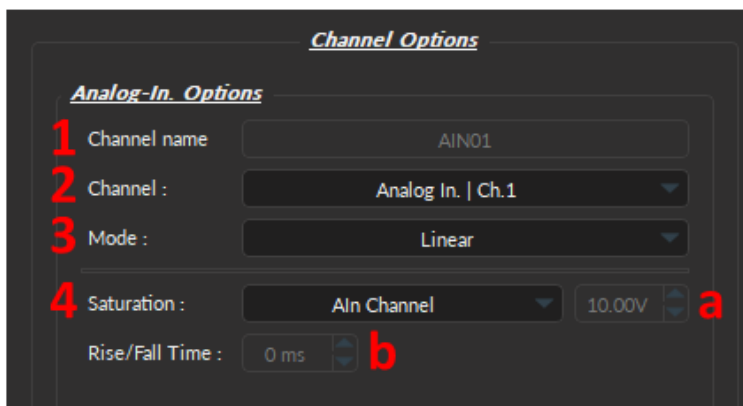
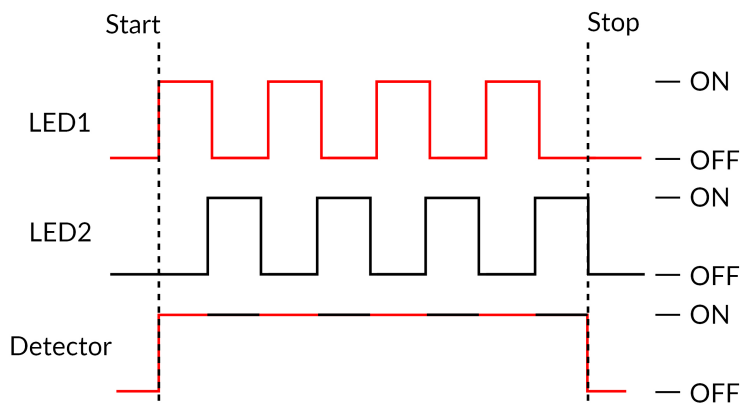
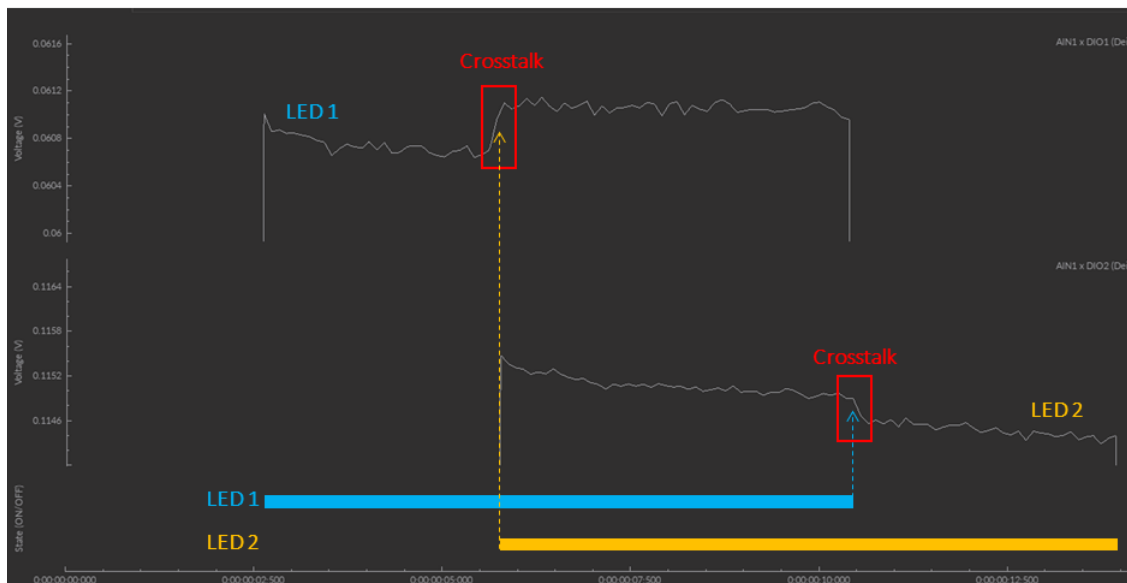
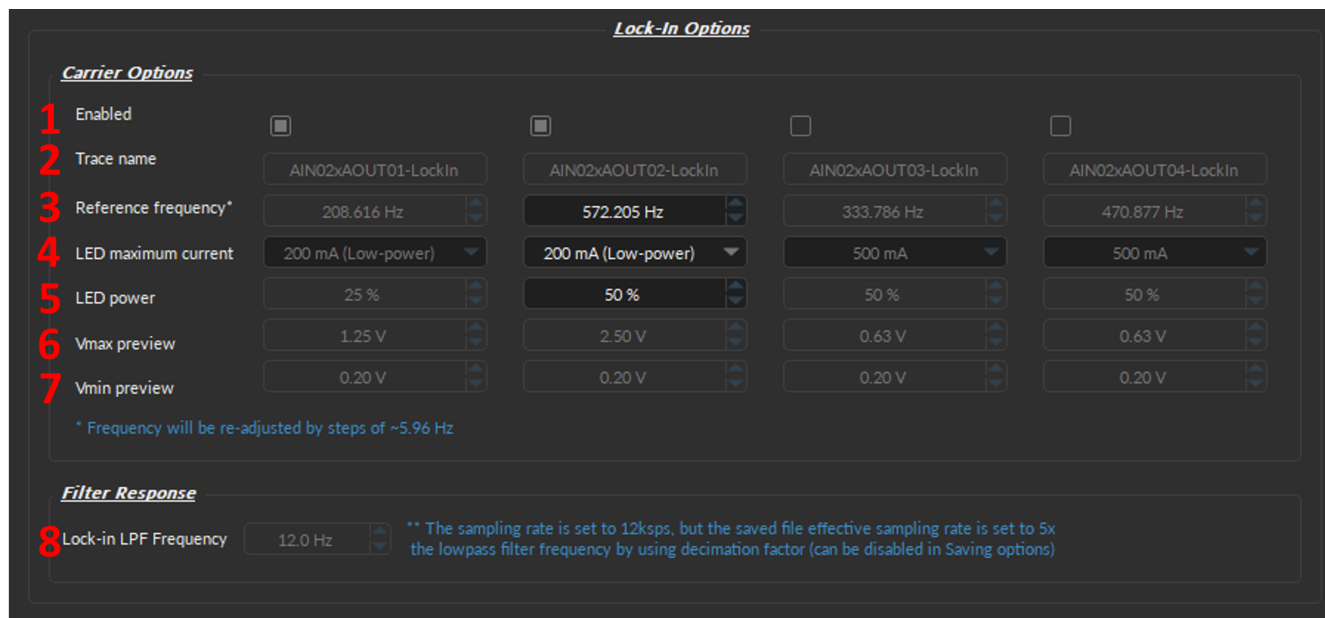

Figure 6.27: Channel(s) Configuration, Analog Input - Channel Options
Figure 6.29: Interleaved Acquisition Timing Diagram
Figure 6.30: Interleaved Cross-talk
Figure 6.34: Channel(s) Configuration, Analog Input Lock-In
The **Channel Options** (Fig. 6.27) defines the channel, source, and mode of the digital signal, as follows:
1. The **Channel Name** (Fig. 6.27, 1) allows the user to specify a label for each channel.
2. The **Channel** (Fig. 6.27, 2) identifies which of the channels available for each channel type is currently being modified. The channel can be changed by selecting a new one from the drop-down list. Each numbered channel on the physical console corresponds to the same number of digital channels within the software.
3. Three **Mode** (Fig. 6.27, 3) are available to record the input signal, each of which has its own defined parameters in the Options box below **Channel Options**:
4. The **Saturation** (Fig. 6.27, 4) automatically sets the following parameters and depends on the detector acquiring the data (Detectors: *Doric detector*, *Newport Detector*, *Hamamatsu C10709*, and *AIn Channel*):
- a) The **Maximum Voltage** (Fig. 6.27, 4a)
- b) The **Rise/Fall Time** (Fig. 6.27, 4b)
The **Interleaved** channel mode allows two channels to send an alternating pulsed signal of opposite phase for two separate light sources. Each source can excite a different fluorophore, which allows the detection of two separate fluorescence signals coming from the same sample using a single channel (Fig. 6.29).
The interleave preset is using 50% duty cycle for each LED, without delay between them (Fig. 6.29). Thus, depending on the Rise/Fall time of the detector in use (Fig. 6.27, 4b, Detector Rise/Fall Time), there will be more or less crosstalk between the interleaved channels (Fig. 6.30).
Specifically, when one of the digital channels is ON, it will pick up when the other is turned ON or OFF (Fig. 6.30). Figure 6.30 shows how the Digital Output channel of LED 1 has a small increase in voltage when LED 2 is turned ON. And, conversely, there is a small dip in voltage in the LED 2 channel when LED 1 is turned OFF (Fig. 6.30).
The **Lock-In Mode** parameters are as follows (Fig. 6.34):
- The **Enable** (Fig. 6.34, 1) row lets users select which output channel to include in the Lock-In settings by clicking the respective check boxes. Each column corresponds to an Analog Out channel of the console (in order, such that left most column = AOUT1). Users should enable the output(s) channels that will be driving the input specified in Fig. 6.27, 2.
- Trace Name** (Fig. 6.34, 2) is the identity of the Input and Output Channel(s) enabled for this Lock-In configuration.
- The **AIN #** corresponds to the console Analog In port number that receives the raw (non-demodulated) signal from the detector. To change the **AIN #**, select a different **Channel** number from the **Analog In Options** box (Fig. 6.27).
- The **AOUT #** number corresponds to the Analog Out port on the console that sends electrical information (including the reference frequency) to the **LED Driver**. While you cannot change the **AOUT #** since it is native to each column of the **Carrier Options** (Fig. 6.34), changing which port is enabled using the checkbox (Fig. 6.34, 1) or physically moving the cable to a different port on the console allows user to specify the connection of the output.
- Reference Frequency** (Fig. 6.34, 3) is the oscillating trigger signal that drives the LED (or device(s) of choice). We recommend using the default values since they are optimized for fiber photometry. But, if modified, frequencies will be re-adjusted in steps of 5.96 Hz. In addition, the reference frequency should not be a multiple of known noise frequency (e.g. 50 and 60 Hz) or a multiple of another reference frequency.
- LED maximum current** (Fig. 6.34, 4) is the largest current that the LED can handle. This value should be set either in low power mode (recommend) or based on the intrinsic maximum current of the LED in use (500 mA or 1000 mA, depending on the type of LED).
5. **LED power** (Fig. 6.34, 5) is the percentage of maximum current (converted to voltage) that will be used as V_{max} and in **External Mode** during the recording, since the LED driver outputs a current proportional to the voltage with a conversion factor of 400 mA/V in standard operation mode, and 40 mA/V in low-power mode.
6. **V_{max} Preview** - automatically displays the maximum voltage based on the **LED maximum current** and the **LED power** selected above (Fig. 6.34, 6). V_{max} can be changed if the **Custom** LED maximum current mode is selected. The V_{max} should never be below 0.3 V, nor above 4.7 V.
- **Note:** If you are using GCaMP and its isosbestic, we recommend that the isosbestic demodulated trace be about half the power of the GCaMP demodulated trace to reduce the risk of photobleaching (as in Fig. 6.34, 5).
7. **V_{min} Preview** (Fig. 6.34, 7) - the default value is set to 0.2 V but can be changed if the **Custom** LED maximum current mode is selected. The V_{min} should never be below 0.1 V.
8. **Lock-in LPF Frequency** (Fig. 6.34, 8) defines the **Cutoff Frequency** of the low-pass filter that extracts the signal and is set to 12 kSps by default. This value was selected because, in photometry experiments, the greatest source of noise to the filter is around the carrier frequency above 200 Hz. Thus, with the current filtering algorithm, a cutoff frequency of 12 Hz (corresponding to a decimation factor of 200x) gives the best filtering results.